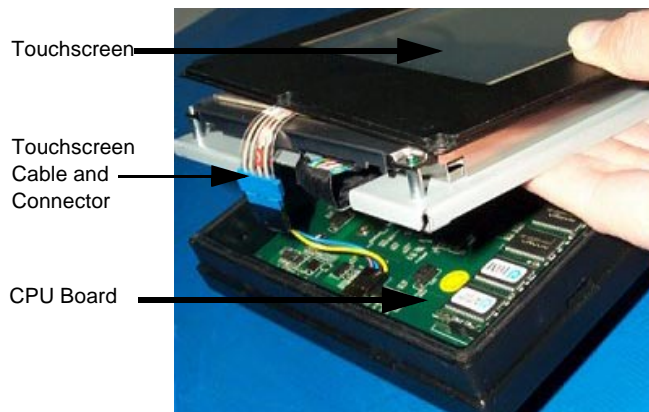

Figure 4 Touchscreen Cable Connector
4. Lift the touchscreen and display unit together about one to two inches to locate the touchscreen cable connector. See *Figure 4*.